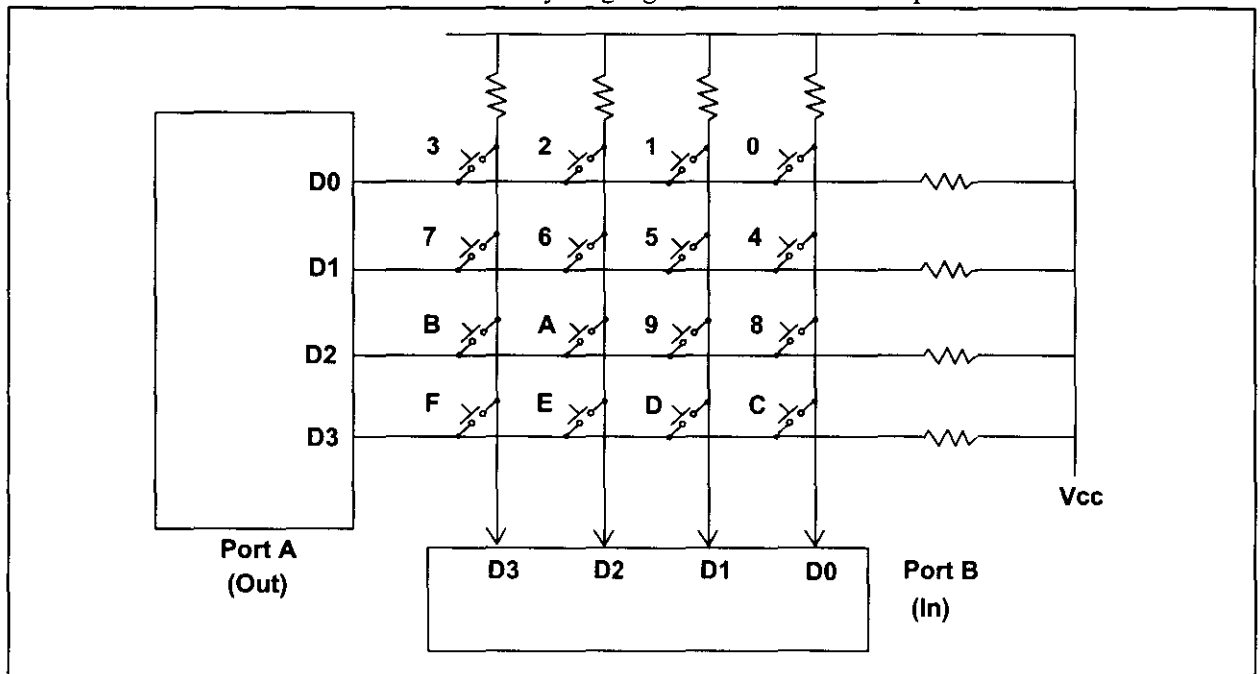

Figure 18-1. Matrix Keyboard Connection to Ports
Figure 18-1 shows a 4 x 4 matrix connected to two ports. The rows are connected to an output port and the columns are connected to an input port. If no key has been pressed, reading the input port will yield 1s for all columns since they are all connected to high (Vcc). If all the rows are grounded and a key is pressed, one of the columns will have 0 since the key pressed provides the path to ground. It is the function of the microprocessor to scan the keyboard continuously to detect and identify the key pressed. How it is done is explained next.
From Figure 18-1, identify the row and column of the pressed key for each of the following.
From Figure 18-1 the row and column can be used to identify the key.
4. In Figure 18-1, if the row has  $D3 - D0 = 1110$  and the columns are  $D3 - D0 = 1110$ , which key is pressed?